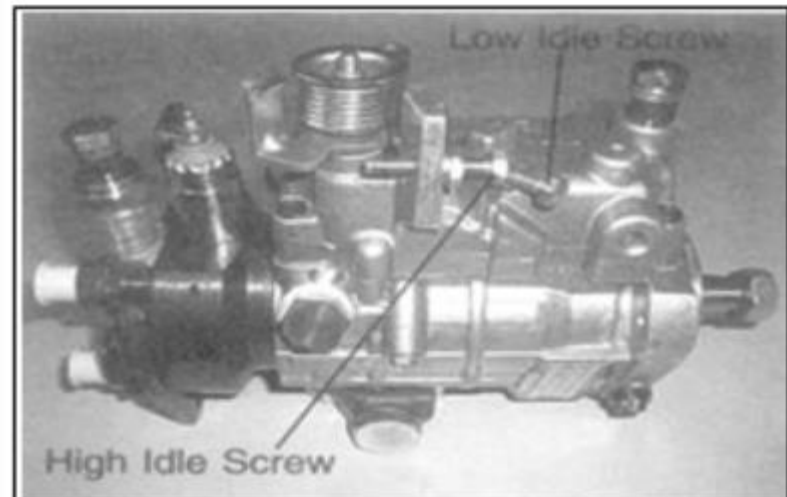

Fig: 22. View of high & low idle screw (Courtesy: Escort Tractor)
- b) Slacken the throttle link before setting the speed. (Fig: 22.)